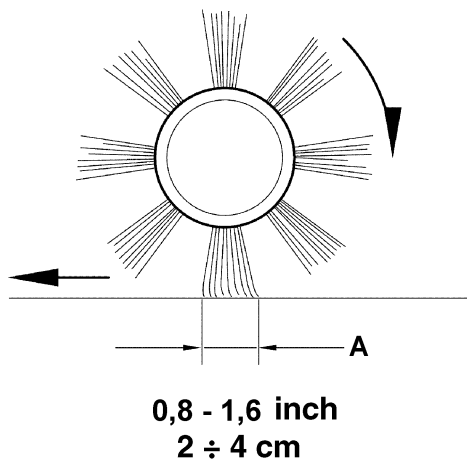
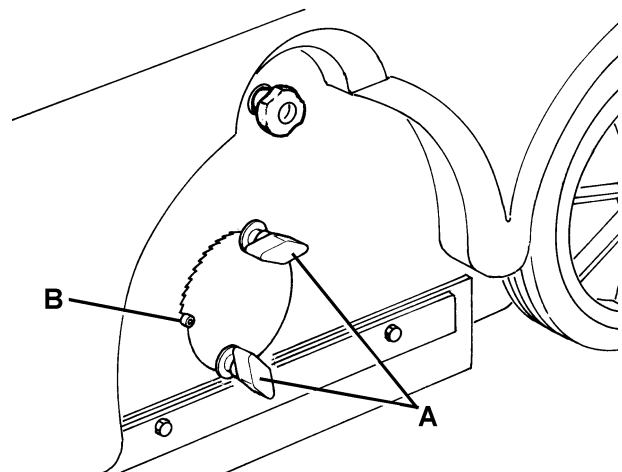

Figure 4
Figure 5
- Check that the main broom print (A, Fig. 4), along its length, is 2 to 4 cm wide.
- If the print (A, Fig. 4) is not within specifications, adjust the broom height as shown in step 2.
2. Make sure that the machine cannot move independently; if equipped, press the pedal brake (26).
3. Turn the ignition key (71) to "0".
4. Loosen the knobs (A, Fig. 5) on both sides of the machine.
5. On both sides of the machine, loosen the knobs (A, Fig. 5) and move the main broom height variation indicator (B) as necessary, then tighten the knobs (A).
The indicator (B, Fig. 5) must be in the same position on both sides of the machine; the maximum difference allowed to obtain the print (A, Fig. 4) shown in step 1 (2 - 4 cm wide) is two notches.